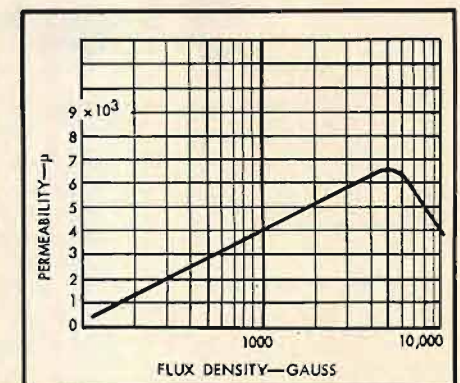

Fig. 9. Typical relation between core flux density and permeability for transformer steel.
density. Typical variations in permeability with flux density taken from the data sheets in a manufacturer's lists, are illustrated by Fig. 9, but experience shows that these permeability values are not achieved under working conditions. Data for these curves are invariably taken on ring samples without air gaps and after annealing. Laminations punched from the same material are rarely annealed after punching, are then assembled with air gaps that are small but unavoidable and finally used in transformers that carry small unbalanced anode currents, all important factors in reducing the permeability below the ring-sample value. It is more realistic to use permeability values that are half those read from Fig. 9 when calculating the winding inductance from Eq. (3). The permeability will be seen to vary by a factor of about five times over a range of flux densities between 200 and 5000 gauss.